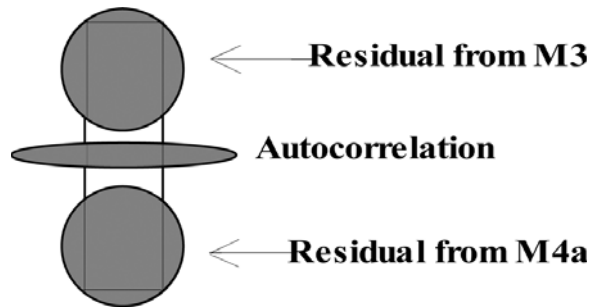

Figure 3-6. Typical Autocorrelation Beam Pattern
- 24. Rotate the SHG housing slightly, so that the doubled autocorrelation is visible on the paper (see Figure 3-6).